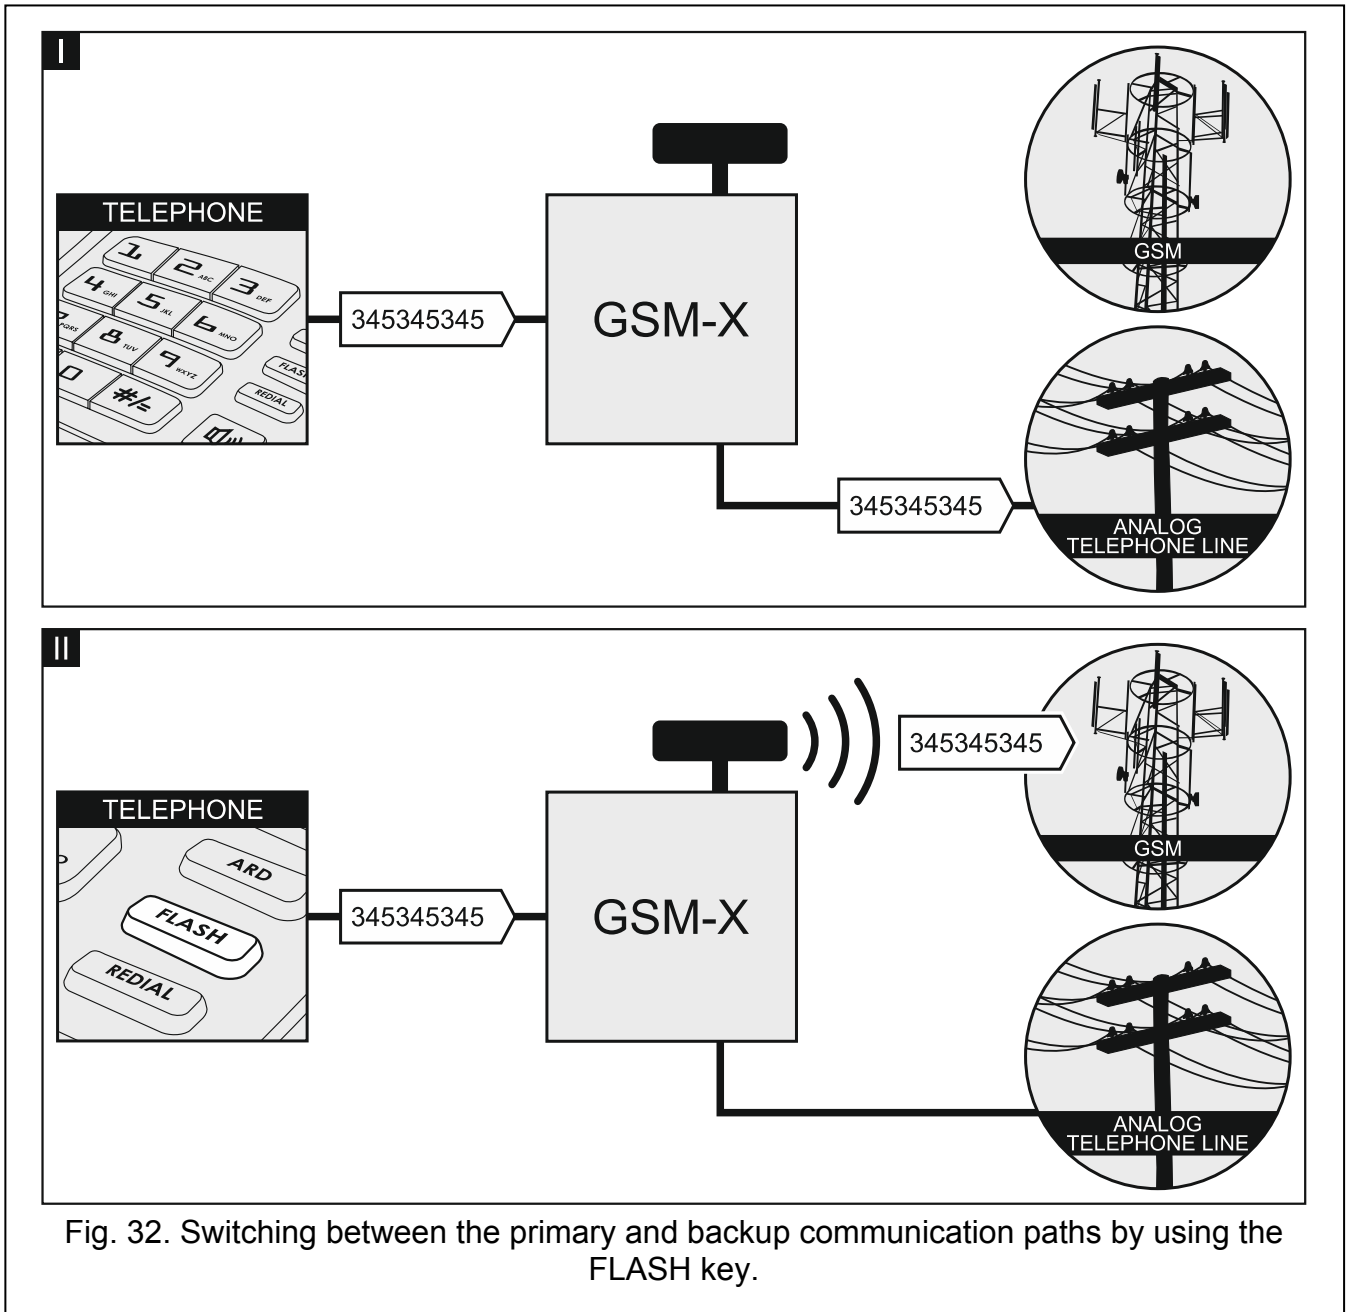

Fig. 32. Switching between the primary and backup communication paths by using the FLASH key.
**Flash switches between GSM and PSTN** – if this option is enabled, it is possible to switch between the primary and backup communication paths by using the FLASH key on the telephone connected to the telephone line output. To define the primary communication path, use the "GSM as a primary telephone line" option. In the example shown in Fig. 32, analog telephone line is used as the primary path. If, after picking up the receiver, before dialing the number, you press the FLASH key, the backup path will be used, i.e. GSM telephone (Fig. 32-II).